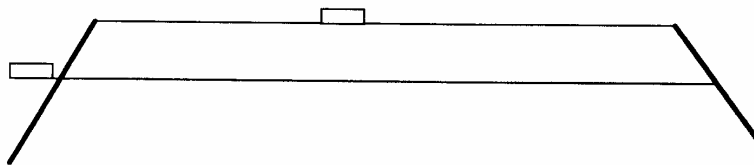

FIG 2.
2. Slacken locking nut and adjust 16mm threaded rod adjustments until floor slats strike axle guide rails in centre of lead up (see fig 2).